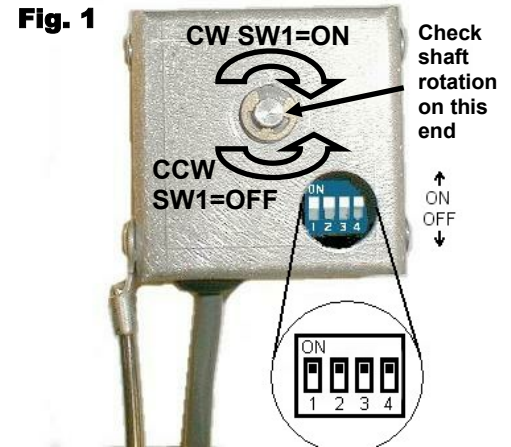

Fig. 2
- In order for the SP1 pulser to correct for meter backlash and pump vibration, it must know the normal direction of rotation. Dispense fuel from the target dispenser and note the direction of shaft rotation. Use the diagram in Fig. 2 to locate the Money or Gallons shaft. Set switch 1 on the SP1 pulser to ON for clockwise shaft rotation, or OFF for counterclockwise rotation. See Fig. 1. **If the direction is set incorrectly, the pulser will not generate an output.** Now that the configuration is set, push the hole plug back into the pulser head to seal it.